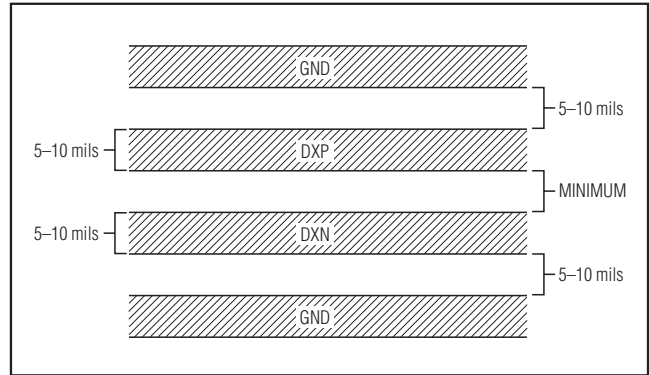

Figure 5. Recommended DXP-DXN PCB Traces. The two outer guard traces are recommended if high-voltage traces will be near the DXN and DXP traces.
- Route the DXP and DXN traces in parallel and in close proximity to each other. Each parallel pair of traces should go to a remote diode. Route these traces away from any higher voltage traces, such as +12VDC. Leakage currents from PCB contamination must be dealt with carefully since a 20MΩ leakage path from DXP to ground causes about +1°C error. If high-voltage traces are unavoidable, connect guard traces to GND on either side of the DXP-DXN traces (Figure 5).